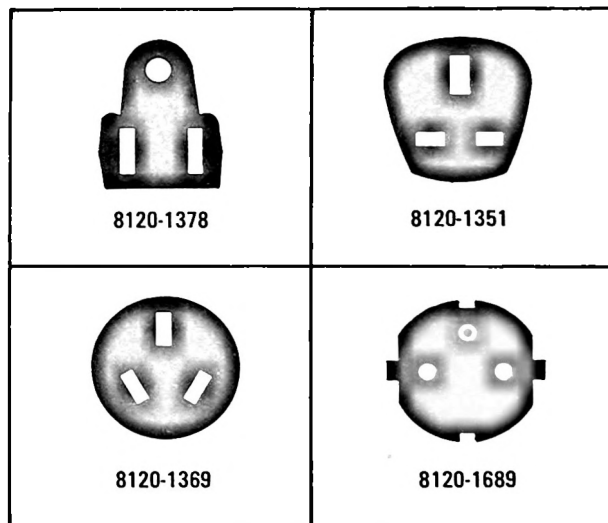

Figure 3. Power Cable HP Part Nos. and Associated Plugs
(For HP Part Number refer to Figure 3)
23. In accordance with international safety standards, this instrument is equipped with a three-wire power cable. When connected to an appropriate ac power receptacle, this cable grounds the instrument cabinet. The type of power cable plug shipped with each instrument depends on the country of destination. See Figure 3 for the part numbers of the power cable plugs available.